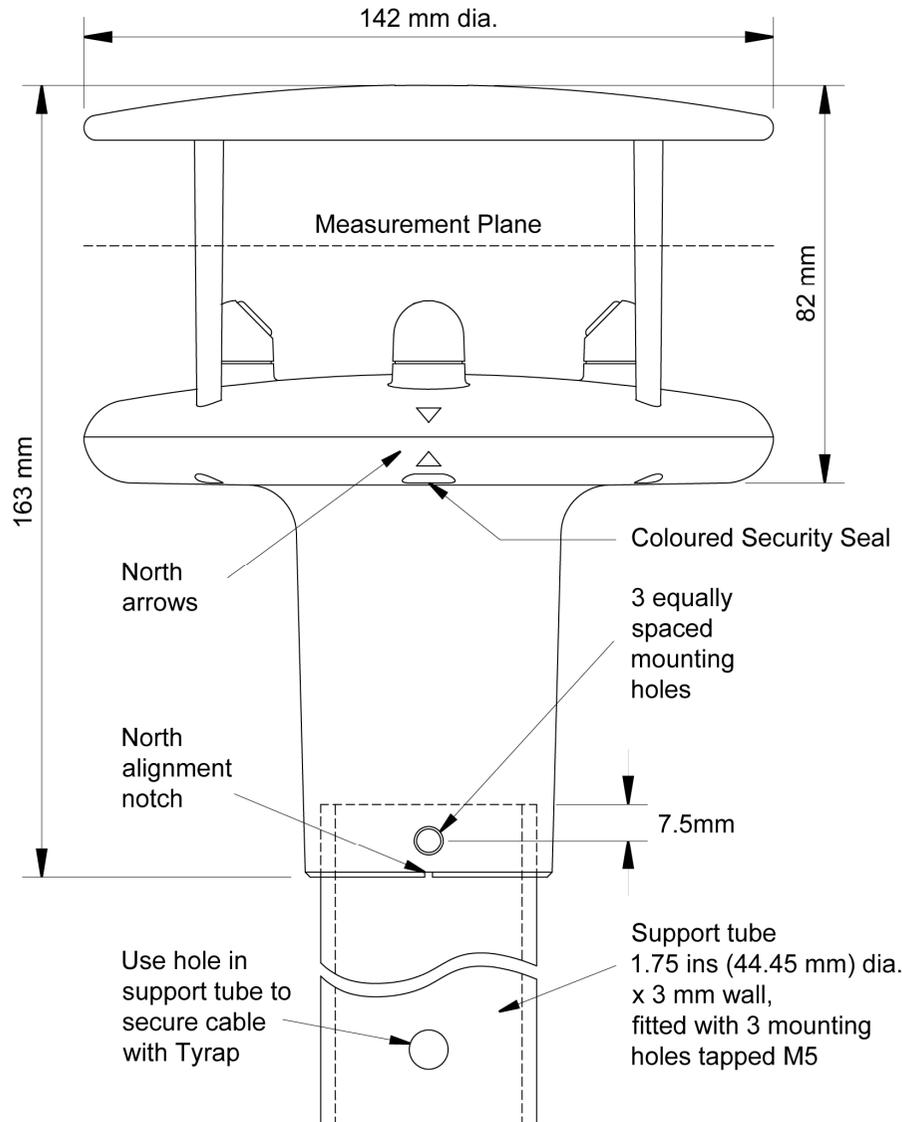

Figure 3 Alignment &amp; Mounting details
*See Figure 3 Alignment & Mounting details*
*See Figure 3 Alignment & Mounting Details*
Shows the Wind Speed in the Measurement Plane (See Figure 3 Alignment & Mounting details) in one of the following units: